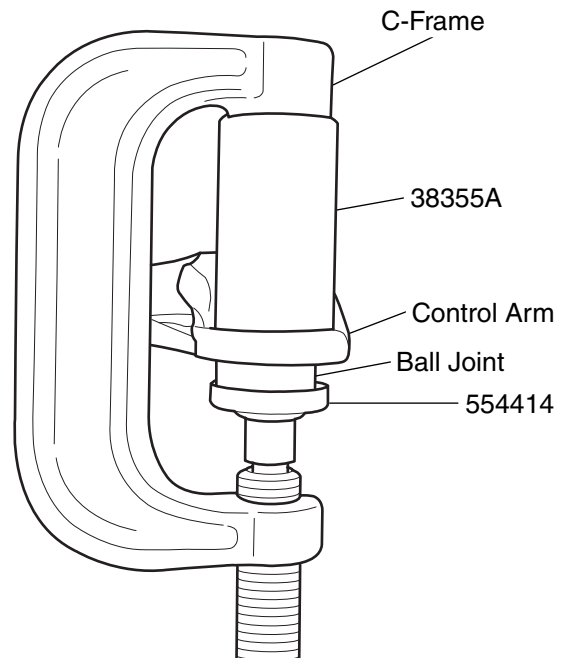

Figure 2. Ball Joint Installation
3. Position 38355A (or 29505 and 305227) on the ball joint as shown in Figure 2.